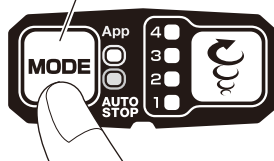

Fig. 21
- (3) Auto stop mode (Only when in forward rotation) (**Fig. 21, Table 6**)